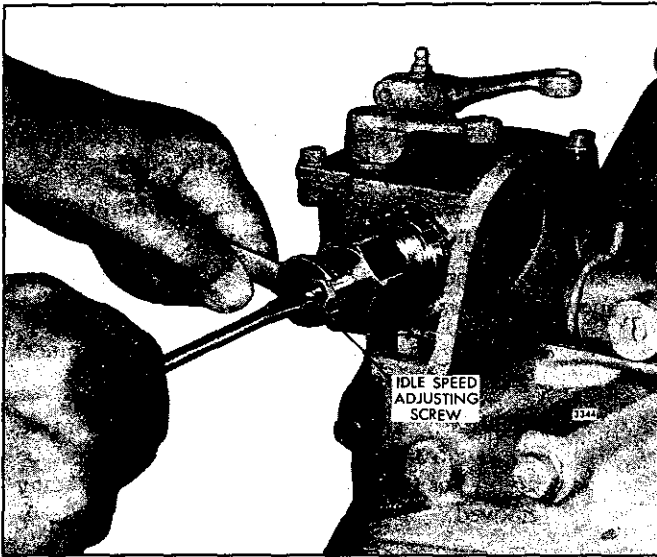
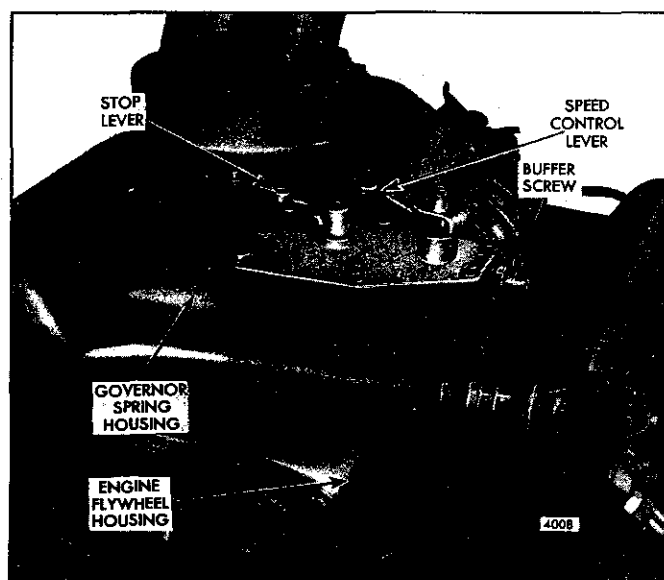

Fig. 8 - Adjusting Engine Idle Speed
Fig. 1 - Limiting Speed Governor Mounting
1. With the engine running at normal operating temperature and with the buffer screw backed out to avoid contact with the differential lever, turn the idle speed adjusting screw until the engine is operating at approximately 15 rpm below the recommended idle speed (Fig. 8).
The limiting speed mechanical governor is mounted at the rear of the engine, between the flywheel housing and the blower (Fig. 1). The governor is driven by the right blower rotor drive gear. The left blower rotor drive gear is driven by a shaft that passes through the governor housing from the engine gear train. There are two types of limiting speed governor assemblies. The difference in the two governors is in the spring mechanism (Fig. 8). One has a long spring mechanism, the other has a short spring mechanism.